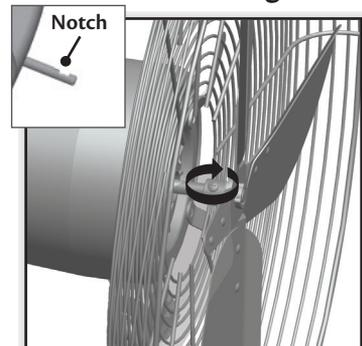

Figure 15
5. Tighten the screw on the blade assembly to secure it to the motor. Make sure that the end of the screw is positioned within the notch on the shaft. Figure 15.